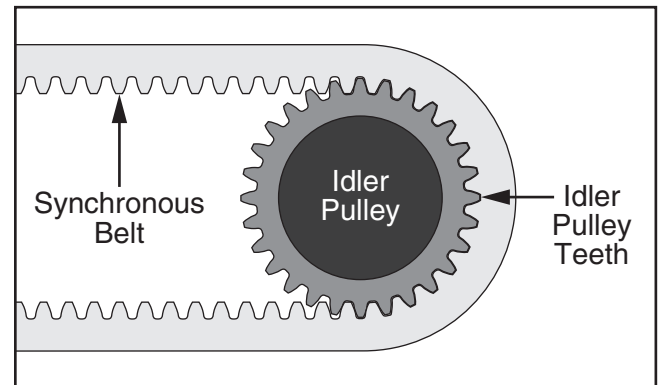

Figure 81. Synchronous belt meshing with idler pulley teeth.
6. Install replacement synchronous belt through left and right idler pulleys and verify belt meshes with pulley teeth (see **Figure 81**).
7. Install replacement synchronous belt through front and rear idler pulleys and verify belt meshes with pulley teeth (see **Figure 81** on **Page 63**).
8. Insert rear belt mounting bracket between rear belt loop and install bracket using (2) cap screws removed in **Step 4**.
9. Insert front belt mounting bracket between front belt loop and install bracket using (2) cap screws removed in **Step 5**.